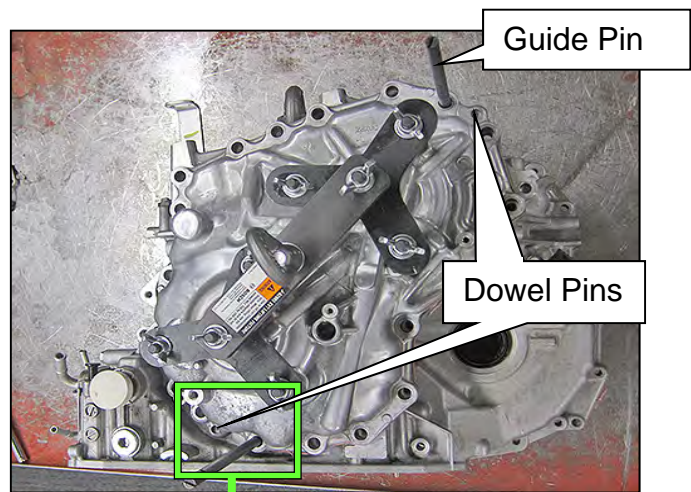

Figure 78
- 1) Tighten the lower six (6) wing-nut bolts.
- 2) Tighten the two (2) joint to triangle brackets.
- 3) Tighten the top two (2) wing-nut bolts, and then proceed to step 60 on the next page.
60. Install the two CVT Assembly Guide Pins (J-51959 - Guide Pins) as shown in Figure 78 and Figure 79.